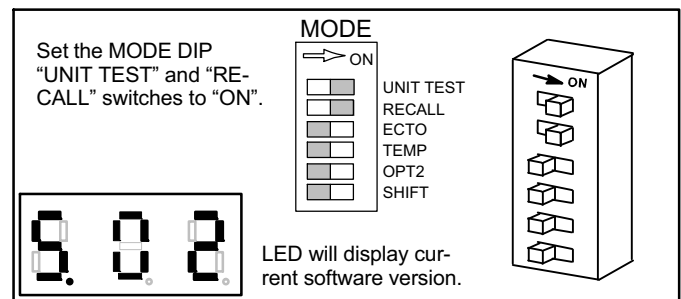

Figure 1. Check M1-7, M1-8 Software Version and Address
3. The IMC LEDs will display the current IMC version (see figure 1).